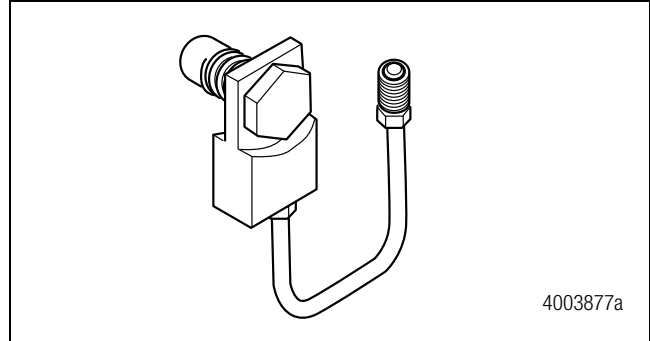

Figure 1.19
**ECON Valve Replacement Part:** This valve is used on System Saver Series 1200E single cartridge air dryers used with Holset E-type compressors. Figure 1.19.